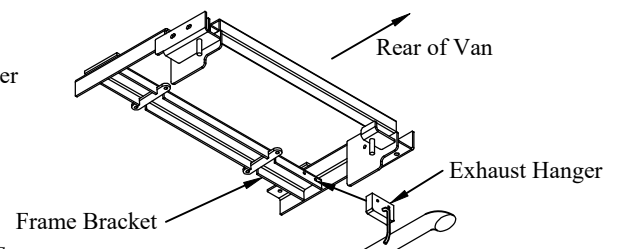
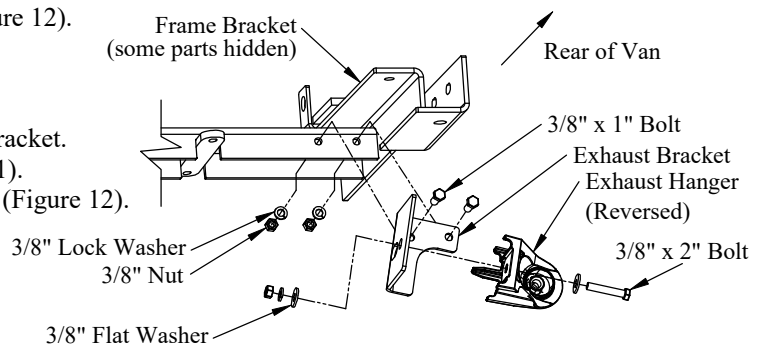

Figure 11: Exhaust hanger location (2015-2025).
Figure 12: Exhaust hanger location (2026+).
10. **Attach** the exhaust hanger bracket to the frame bracket with 3/8" x 1" bolts, lock washers, and nuts (Figure 12). For 2026 and newer only.
11. **Attach** the exhaust tailpipe to the exhaust (Figure 11 or Figure 12). The rubber hanger should still be attached to the exhaust. For 2026 and newer the hanger needs to be reversed.
12. **Attach** the exhaust hanger to the frame bracket or exhaust bracket. Use 3/8" x 2-1/2" bolts, lock washers, and nuts (Figure 11). Or use 3/8" x 2" bolt, flat washers, lock washer, and nuts (Figure 12).